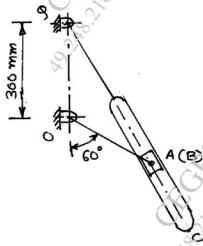

Fig. 4
8. (a) In the Fig. 4, show the Coriolis component of acceleration of link with direction for the following two cases :